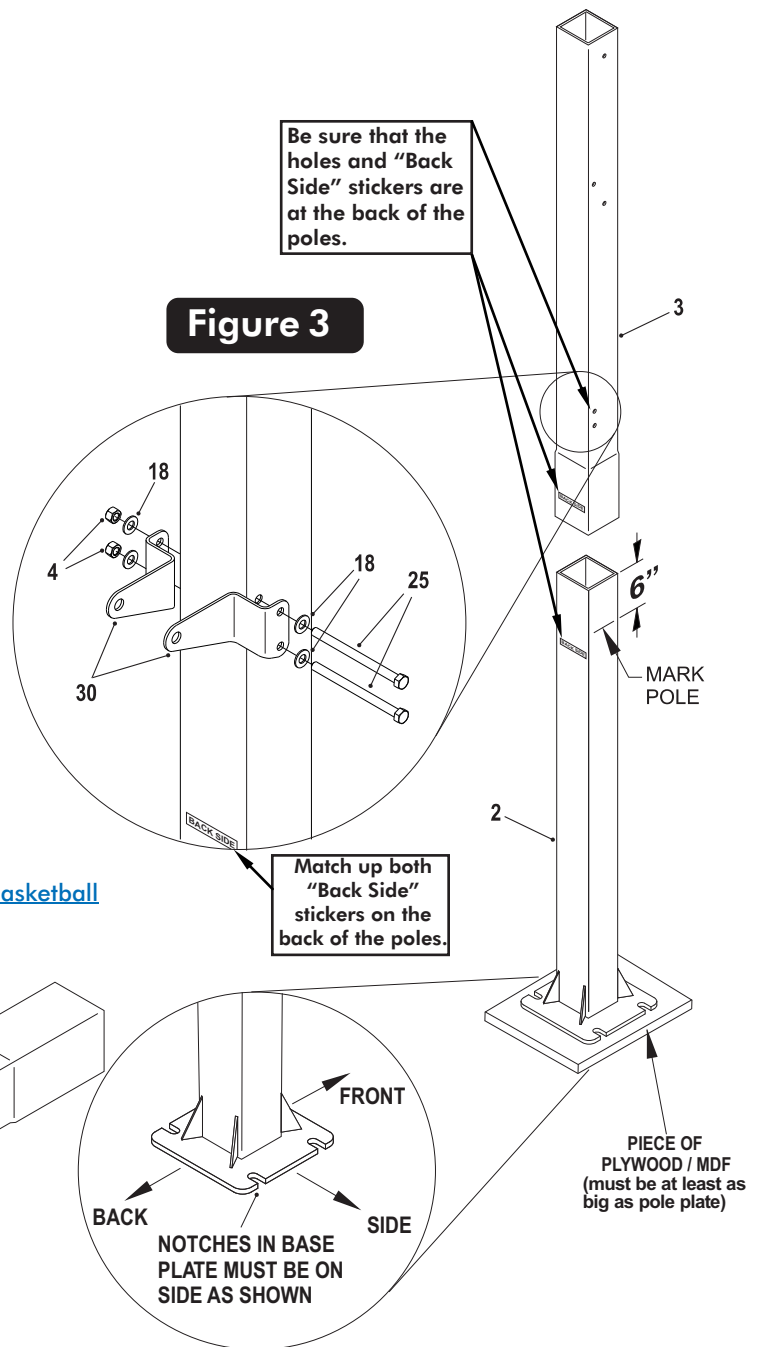

Figure 3
1. Before putting any of the poles tubes together, mark bottom pole (#2) 6 inches from the top end. **Be sure that the holes and "Back Side" stickers are at the back of the pole.** See **Figure 3**.
2. Align the upper pole (#3) with the bottom pole (#2) as shown in **Figure 3** and slide them together. Stand poles up on a piece of MDF or plywood, **lift poles up by bottom pole** below the 6" mark you made and slam down the bottom pole as many times needed on a piece of MDF or plywood **until the bottom of the upper pole reaches the 6" mark** on the bottom pole. This is a friction-locking joint and requires no hardware.
3. Attach Post Ears (#30) to holes near the bottom of Top Post (#3) using two hex bolts (#25) four washers (#18) and two lock nuts (#4). See **Figure 3**.